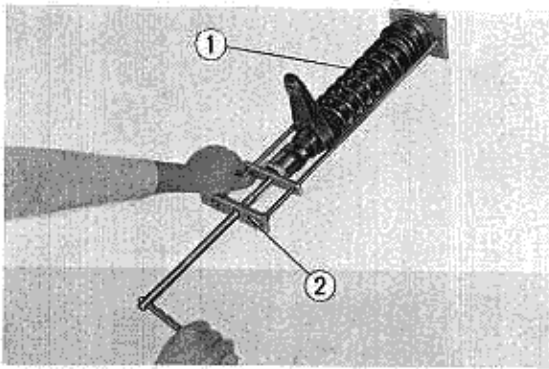

Fig. 12-2 ① Front Shock Absorber Assembly
2. Set the front damper compressor (special tool) as shown in Fig. 12-2. Compress the the front damper spring gradually by turning the handle and remove the cotter ring.